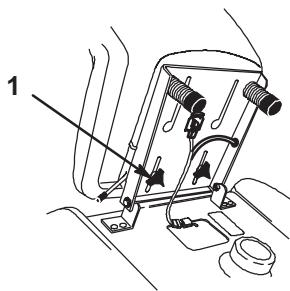

Figure 18
1. Raise the seat and loosen the adjustment knobs (Fig. 18).